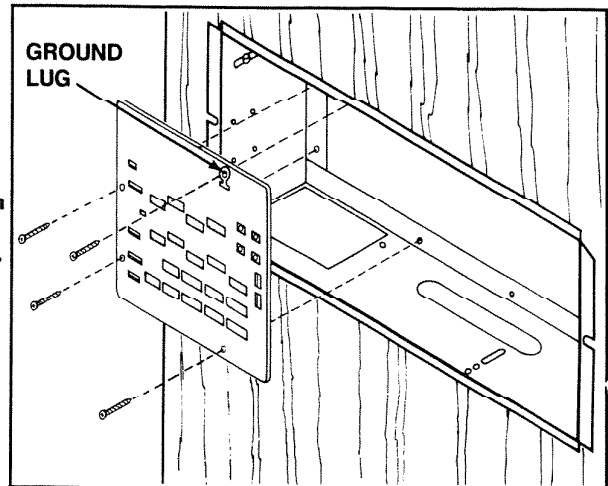

FIGURE 1
1. Locate the terminal board in the left rear section of the rough-in frame. See Figure 1.
2. Use four No. 6 x 3/8" screws to secure terminal board to rough-in frame. See Figure 1.
3. Make certain that the upper right screw is secure and snug against the ground lug which covers mounting hole in terminal board. Do not bend ground lug—make sure it is positioned between screw and terminal board. See Figure 1.